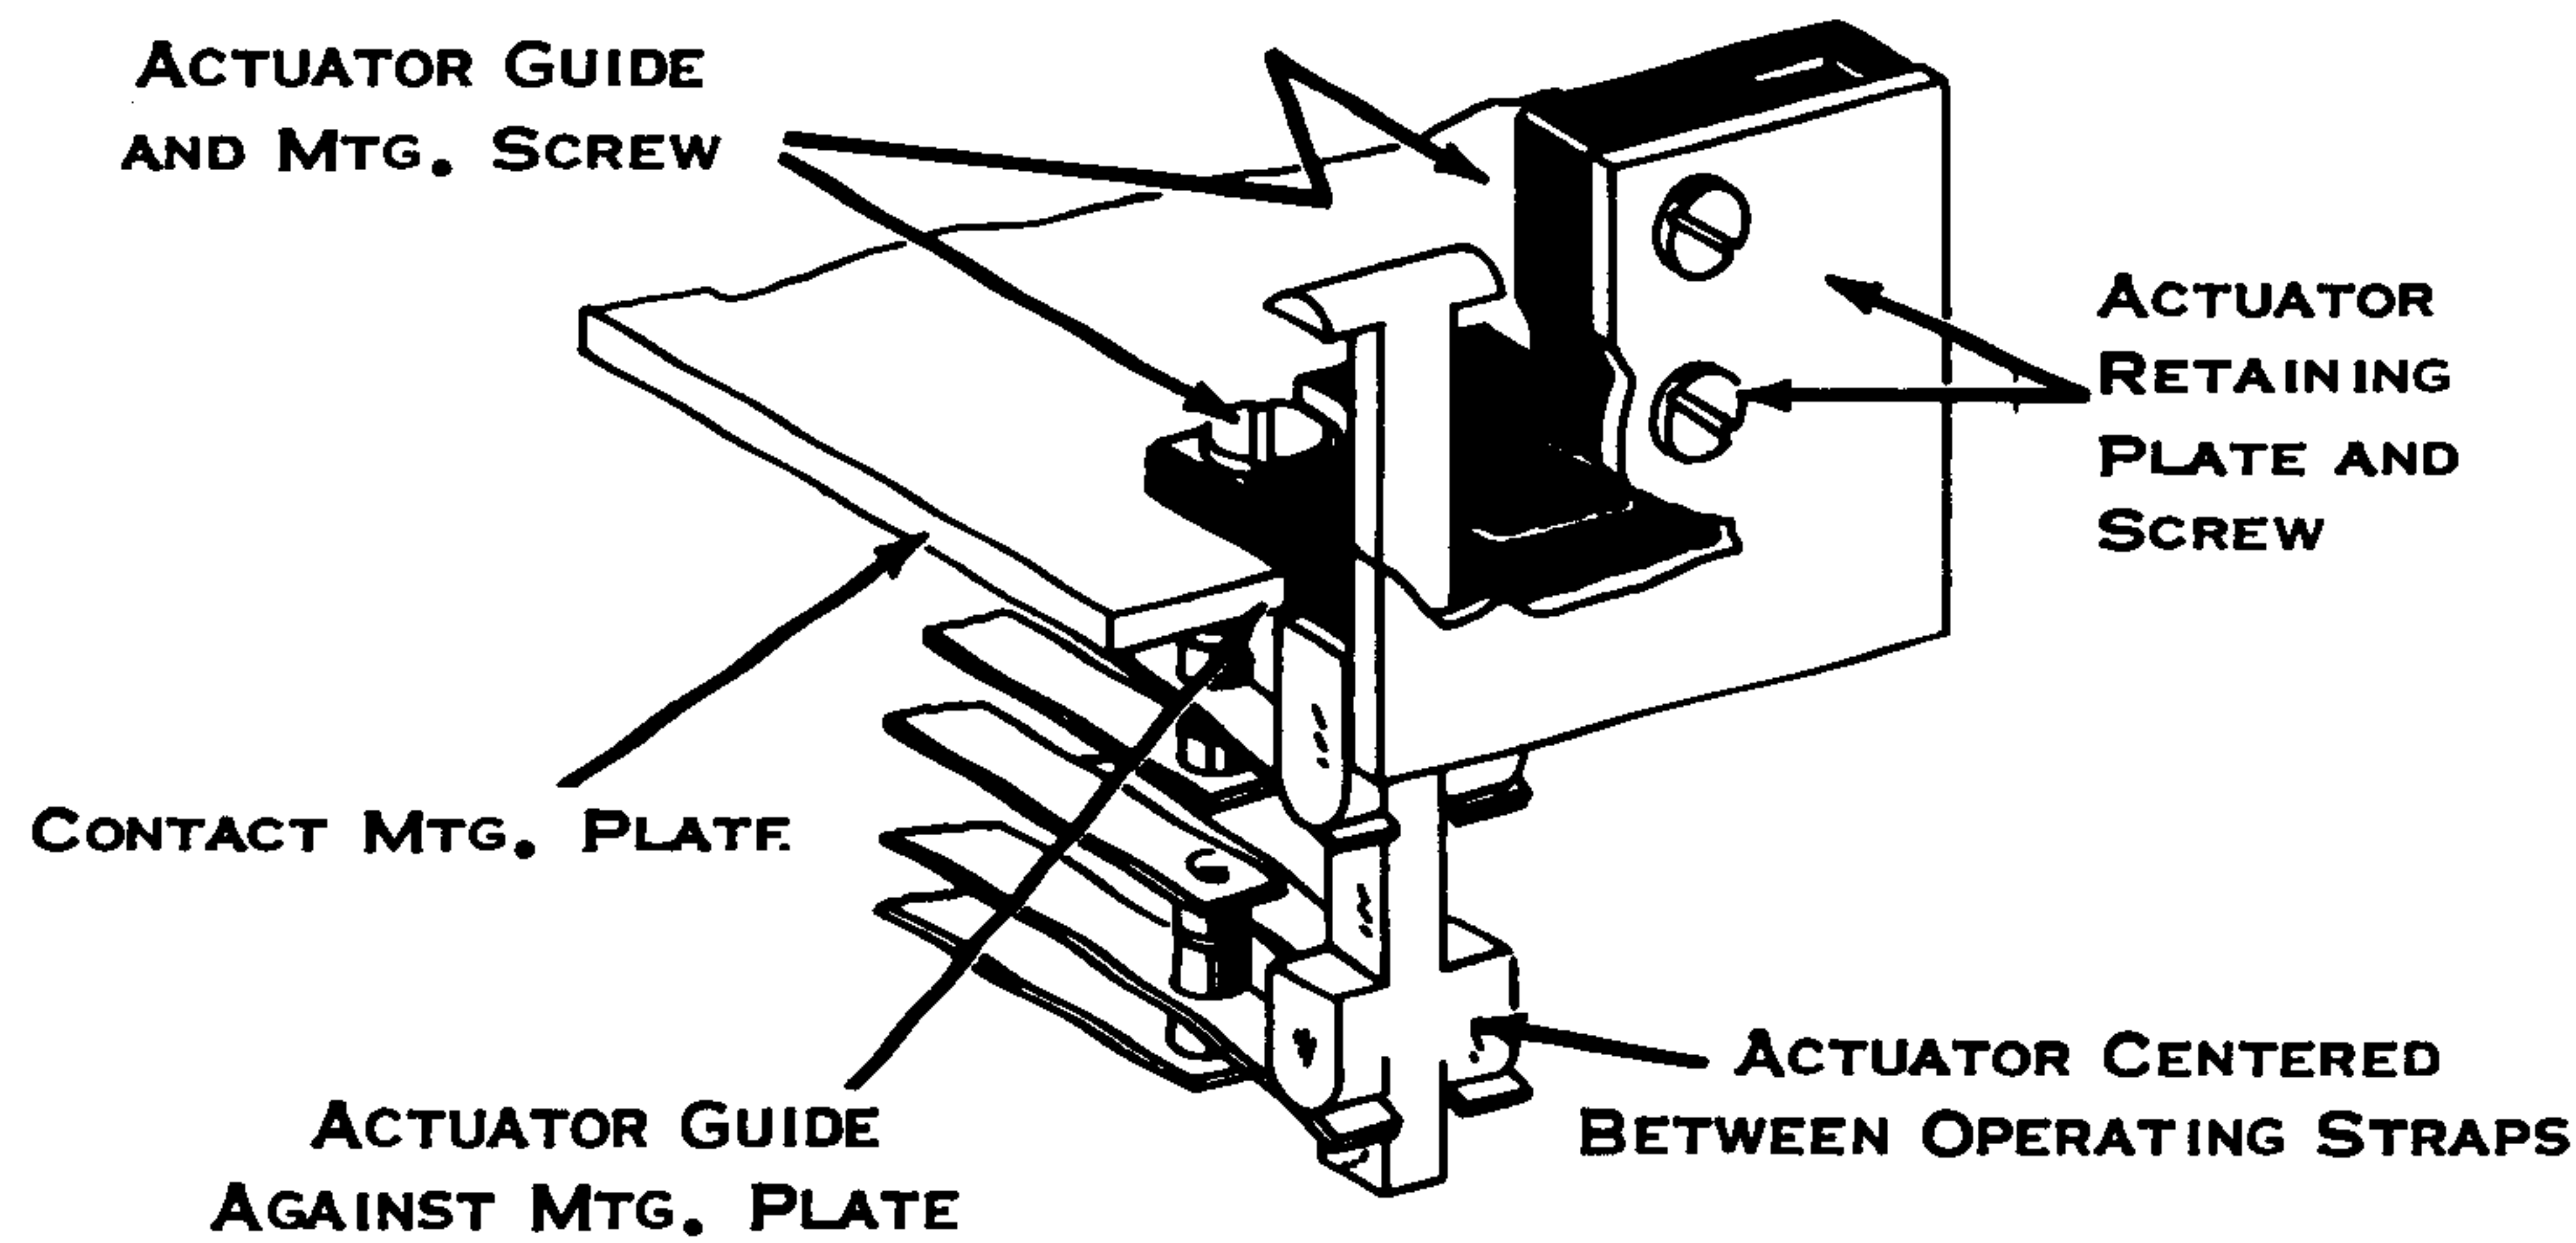

Figure 33. Actuator Guides
2. Actuator Guides (Fig. 33) - Mount squarely against the rear edge of the contact mounting plate with the actuators centered between the contact operating straps. The actuator guide and contact mounting screws must both be loosened for this inter-related adjustment.